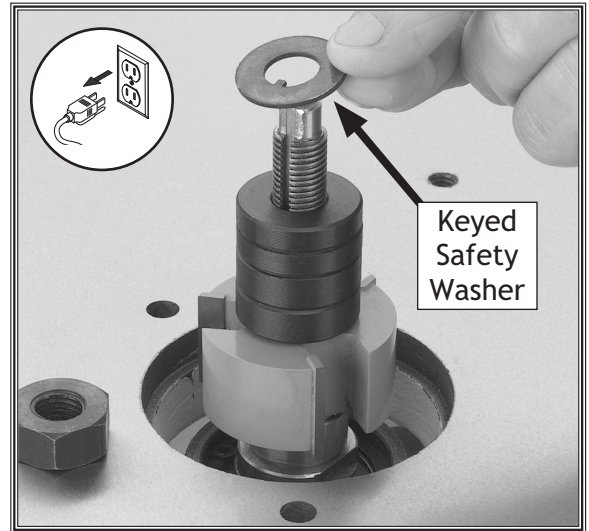

Figure 24. Placing the keyed safety washer.
3. Install the keyed safety washer and nut as shown in Figure 24.